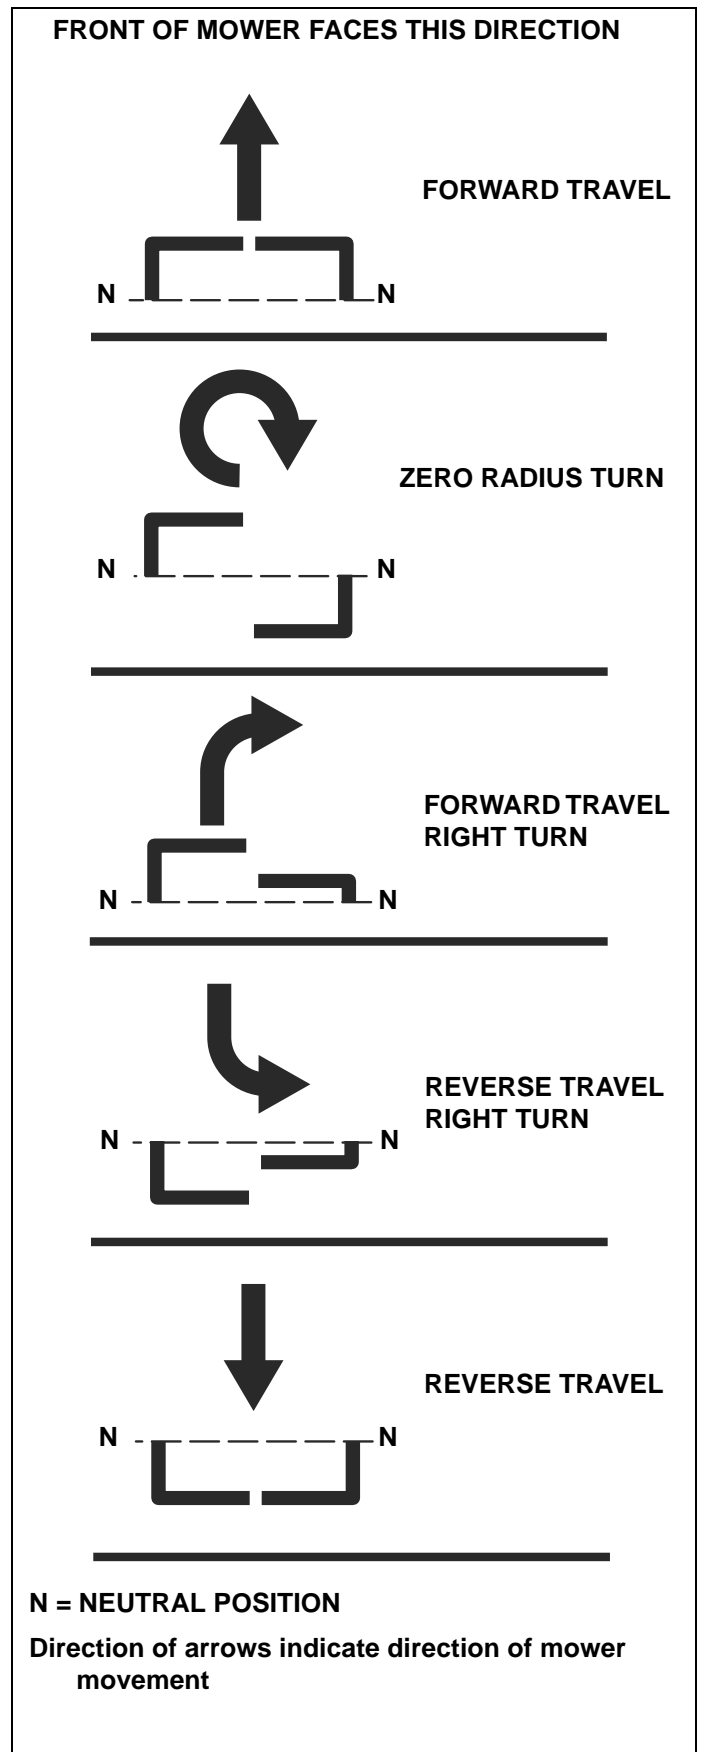

Figure 3-9
**To go forward**, push steering control levers forward an equal distance (Figure 3-9).
**To go in reverse**, pull steering control levers rearward an equal distance (Figure 3-9).
**To turn right**, move the left steering control lever farther forward from neutral than the right steering control lever. (Figure 3-9)
**Zero radius turn**, move one steering control lever forward and the other steering control lever back of neutral. This will allow the drive wheels to counter-rotate. (Figure 3-9)